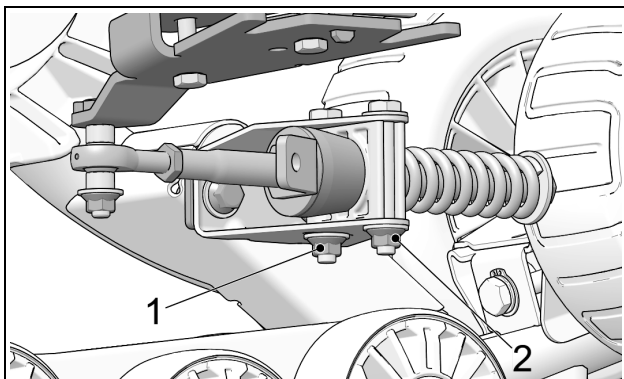

Figure 8
- Re-tighten anti-rotation bracket bolts (1) and (2) to 50 N•m [37 lb•ft] of torque. See Figure 8.